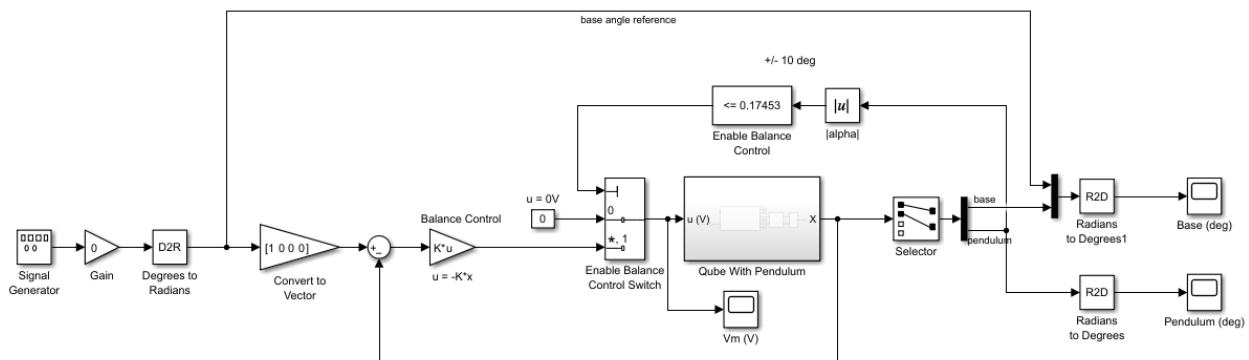

Figure 1: LQR pendulum balance control model
In this lab you will use the qs3_lqr_ctrl.slx file to complete the model as shown in Figure 1. This model will balance the Qube-Servo 3 rotary pendulum system using a generated control gain K .
7. Open the Simulink model `qs3_lqr_ctrl.slx`. We will try to construct the model in Figure 1.
9. Add a **Gain** (of 0) and a **Degrees to Radians** block as the desired input to the system as shown in Figure 1.
16. Connect your system so it now looks like the model in Figure 1.